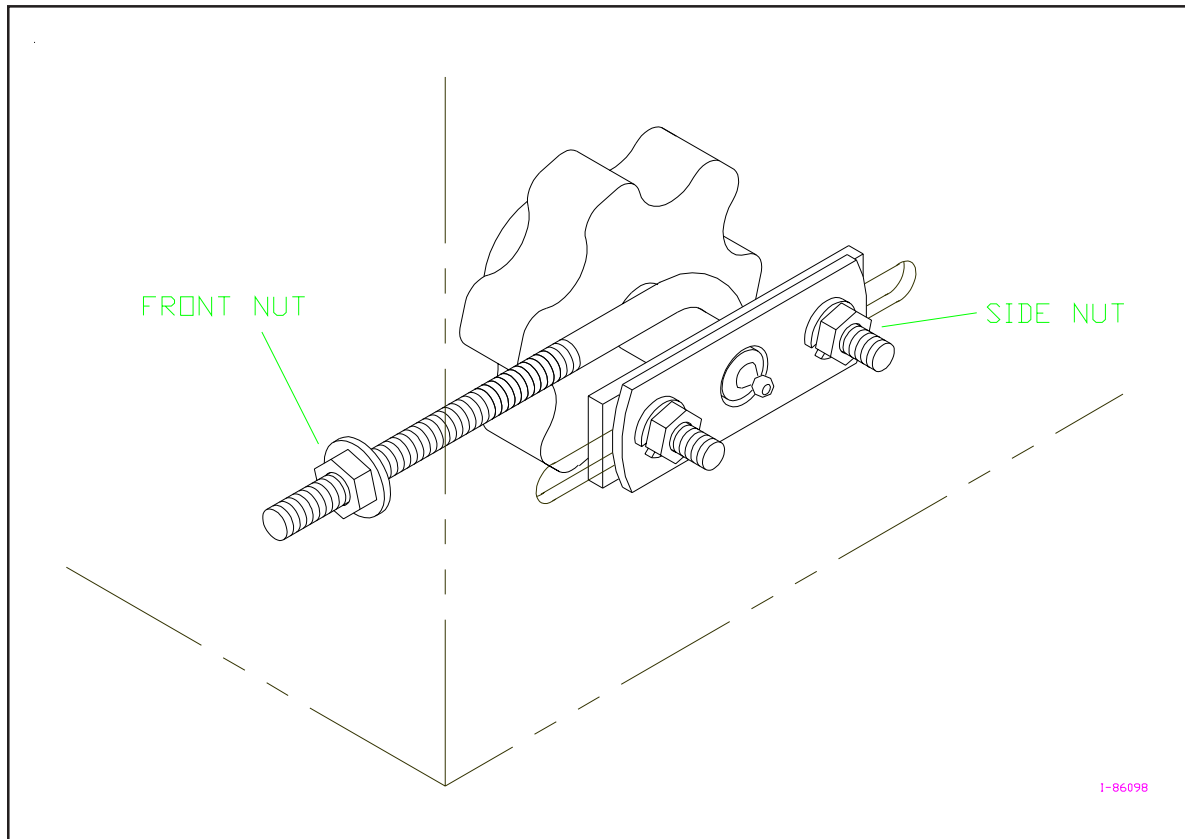

Figure 4B - Adjusting the Floor Apron Chain for Proper Tension
- Periodically check the floor apron chain for tension/tightness (refer to Figure 4B).
- d) If the chain needs adjustment, use a 3/4" wrench to loosen the two side nuts on each side of the spreader box as shown in Figure 4B. Turn the *front* nut clockwise or counterclockwise with a 9/16" wrench until correct tension/tightness is achieved. Repeat for the other side. ***Make sure that the chains on each side of the apron are equally taut.***